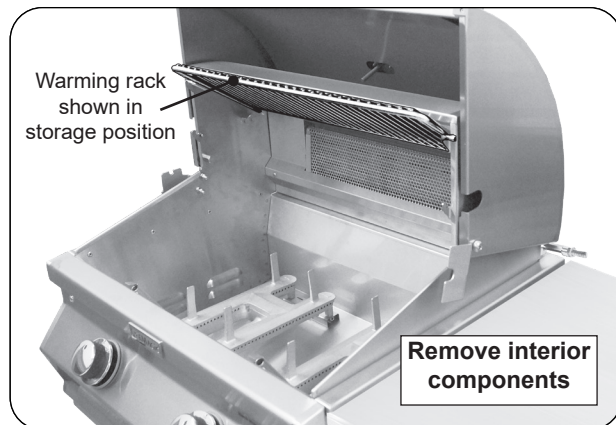

Fig. 28-1 Prepare grill for rotissing
1. On the gas side of the grill, set the warming rack to storage position, remove the backburner cover and cooking grids (see Fig. 28-1).